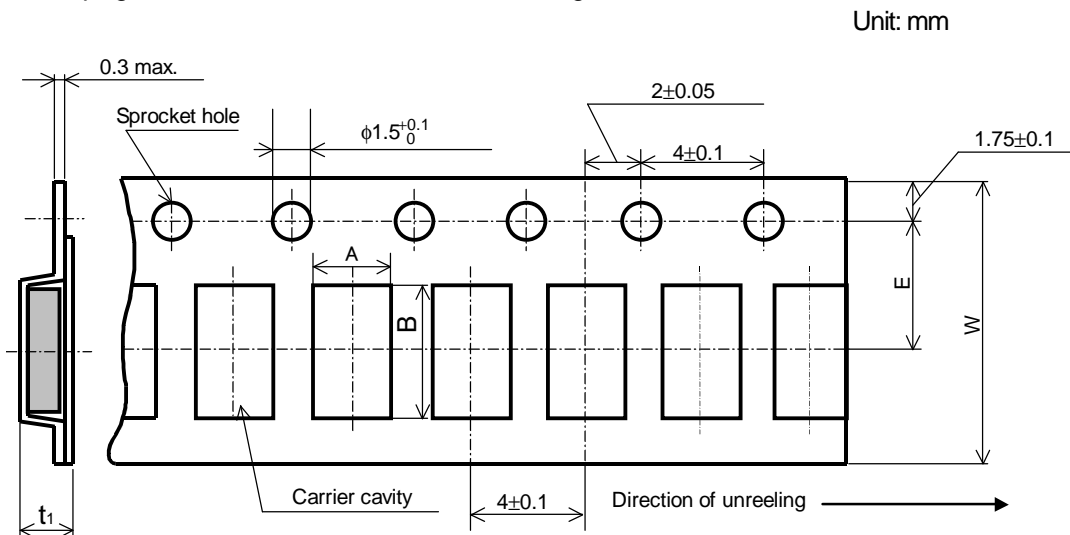
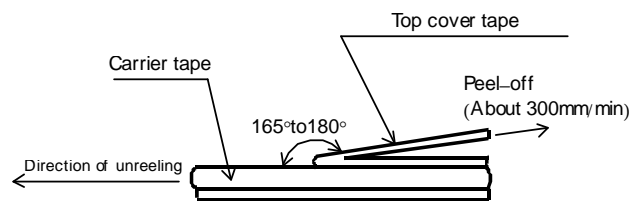

Figure-4
Figure-5
8.2.2 Embossed taping dimensions shall be in accordance with Figure-4 and Table-6.
- 5). The peel strength of the top cover tape shall be within 0.1N to 0.5N on the test method as shown in the following RPCH16,20,32:Figure-4,RPCH35:Figure-5.